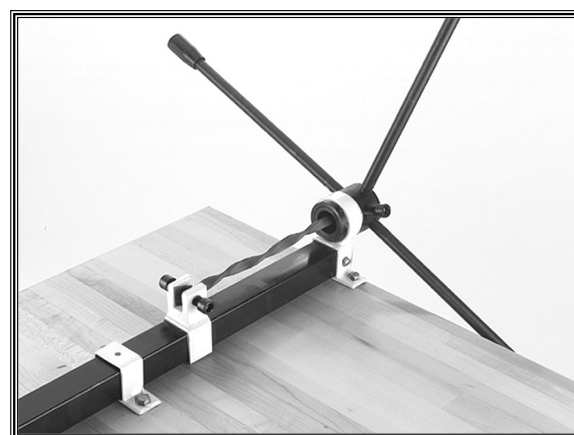

Figure 5. Twist tool.
1. Thread the four handles into the twist tool hub as shown in **Figure 5**.
4. Place each tool onto the work surface and make sure adequate work room has been given on all sides as shown in **Figures 5, 6, and 7**.